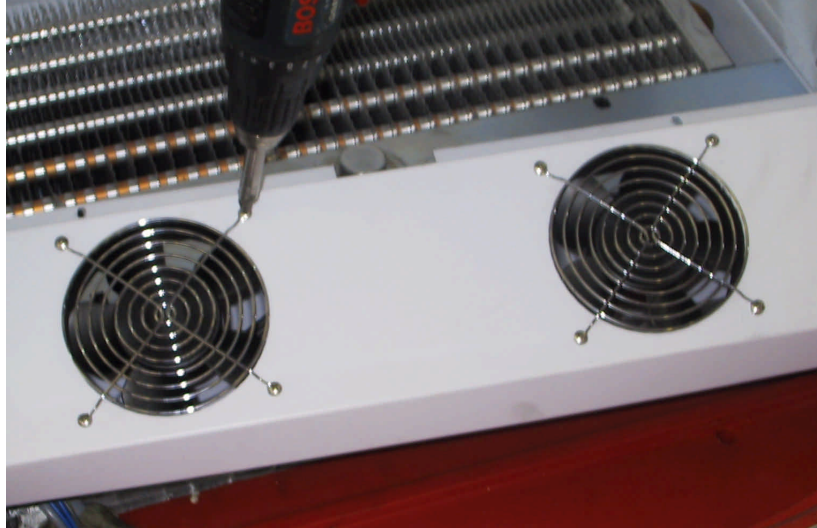

Figure 51
4.2.1 INTERNAL FAN MOTOR (MI) (47) AND GRILLE (36) REPLACEMENT
Remove the red water drip (57) and the carter as explained in par.2.3.1.2., by unscrewing the 4 screws supporting the internal fan motor (47) and the grille (36) as shown in Fig. 51 and disconnecting the fan motor wires (Fig. 17).